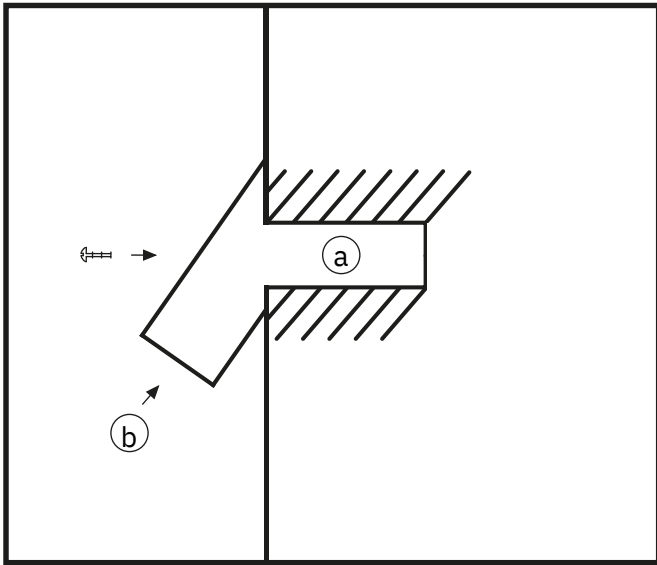
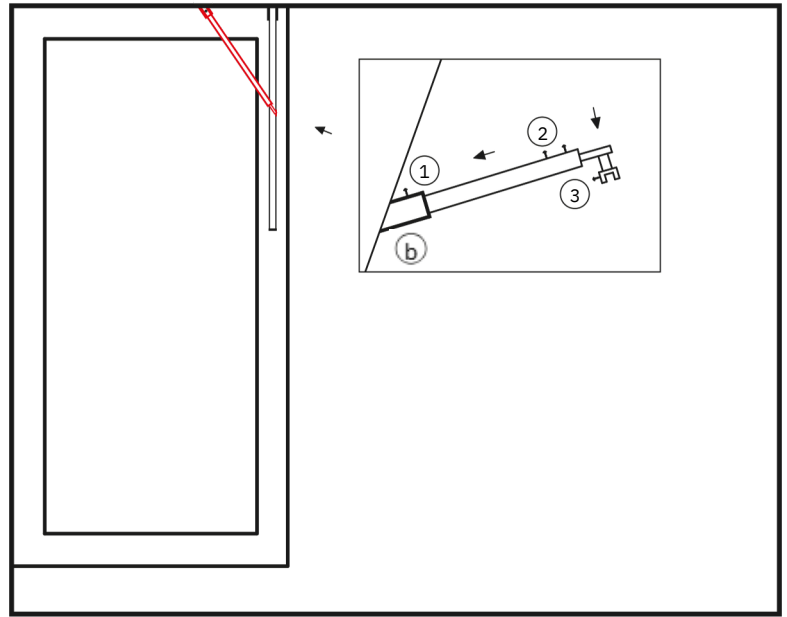

Figure 9: Top view
Figure 10: Top view
19. Install the telescopic tube at a 45 degree angle to the wall. Since the telescopic tube is adjustable, choose the mounting location according to your preference, but we recommend installing it towards the outer corner of the glass. (Fig 10)
20. Install the gaskets included with the tube between the telescopic tube mounting bracket (3) (the part that attaches to the glass and the U-channel) to prevent the glass from coming into contact with the metal.
22. Mark on the wall where the mounting hole (a) needs to be drilled and remove the telescopic tube. (Fig 9)
24. Unscrew the screw (1) on the telescopic tube and remove the wall-mounting part (b). (Fig 10)
25. Install the part (b) into the hole (a) previously drilled in the wall and secure with a screw. (Fig 9)
26. Take the telescopic tube and carefully install it into the wall mount (b) and rest the other end (3) on the planned location, on the glass and the U-channel. (Fig 10)
27. Tighten and secure the screw (1). NB! The mounting point must face upwards!
28. Fix the telescope mount (3) to the glass and U-channel with a screw. NB! It is important that you have previously installed the gaskets included in the kit between part (3)! Metal parts must not come into contact with the glass, which could cause the glass to break.
29. Adjust the glass using a spirit level and fix the telescopic tube using the screws (2) with the positions facing upwards.